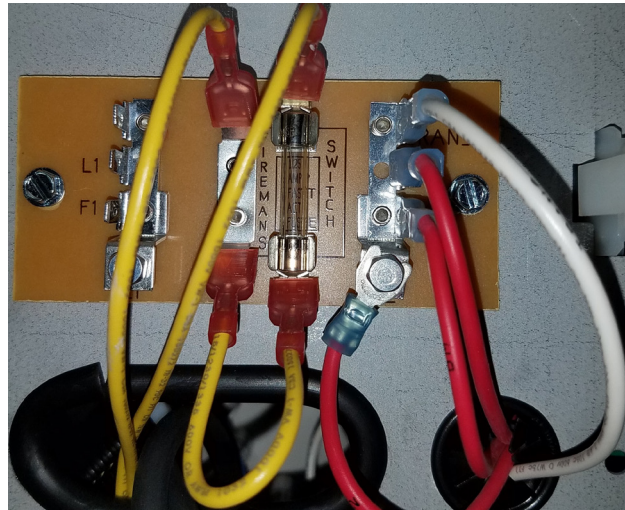

Figure 36.
3. Locate the **Fireman Switch jumper wire**; remove the wire. See Figure 36 below.
4. Connect the **Remote Control Dry Contact wires**. See Figure 36 below.
TIME CLOCK/FIREMAN'S SWITCH (See Figure 36 above):